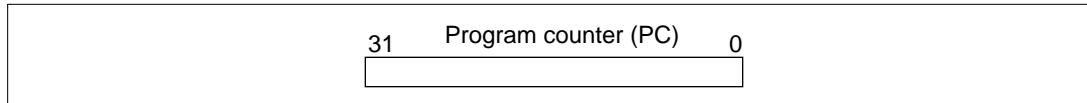

Figure 1.7 Program Counter
Program Counter (PC): Indicates the fourth byte (second instruction) after the current execution (figure 1.7).